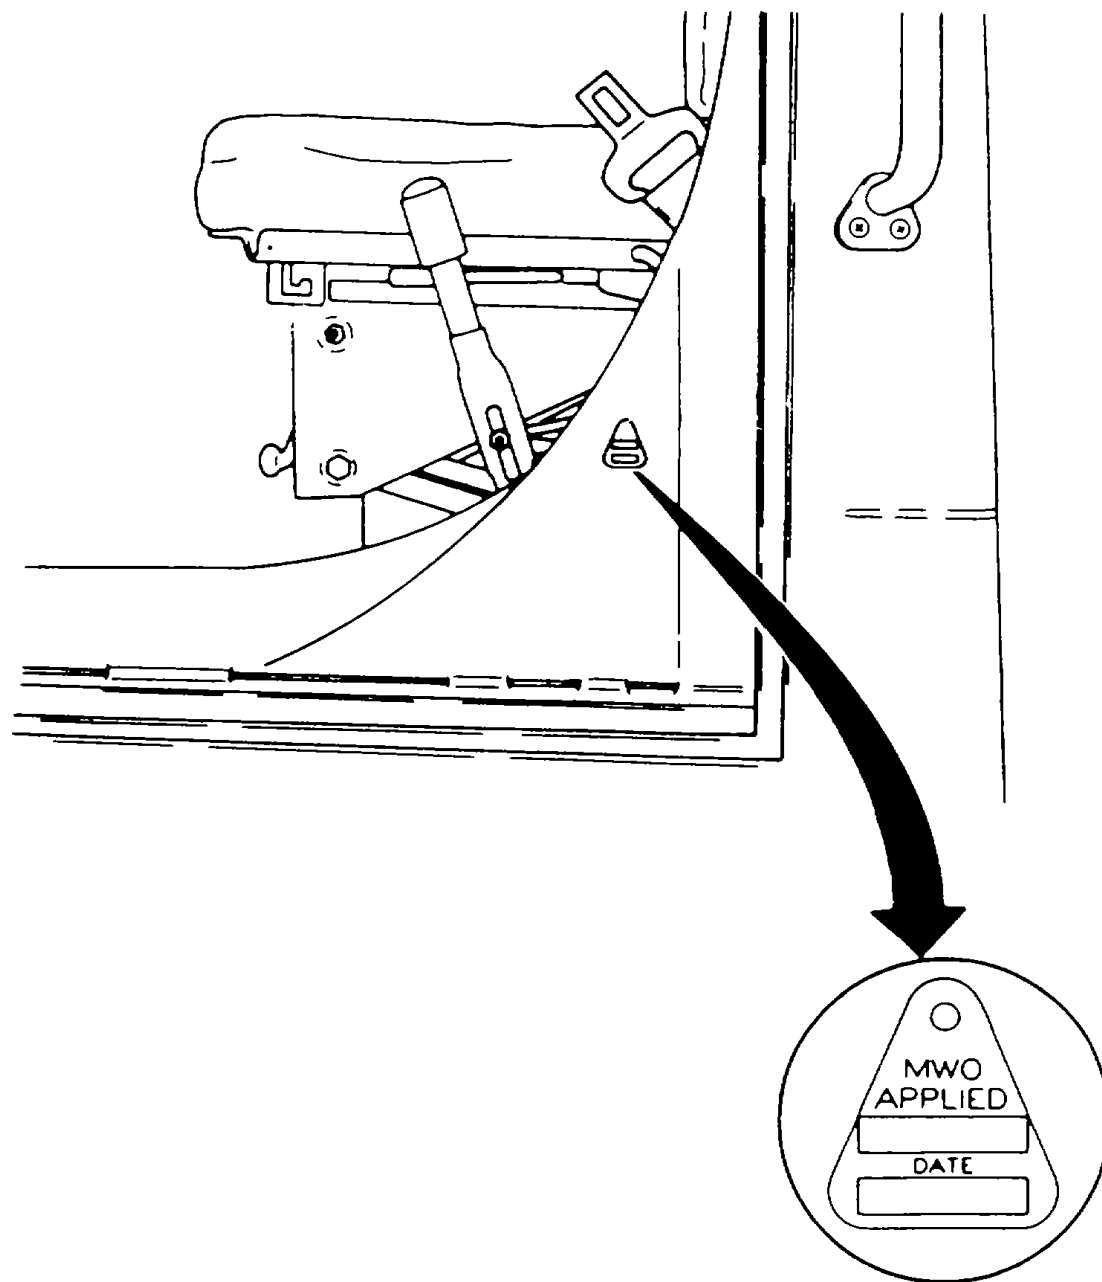

FIGURE 3
(1) After Front Lifting Pin and Shackle Kit is installed, mark MWO number "MWO 9-2320-272-20-5" in the MWO applied block and date in date block on MWO Instruction Plate NSN 9905-00-858-5682.
(2) Install MWO data plate by drilling a hole (#37 drill) in cab body reinforcement panel and secure with drivescrew NSN 5305-00-253-5614 as shown in figure 3.
(3) After drivescrew is installed, flatten or remove protruding excess drivescrew material from inside of cab body reinforcement panel.
15. MATERIAL CHANGE (MC) NUMBER.
When the Front Lifting Pin and Shackle Kit is installed, it will be identified by the MWO Instruction Plate mounted on the cab reinforcement panel as shown in figure 3